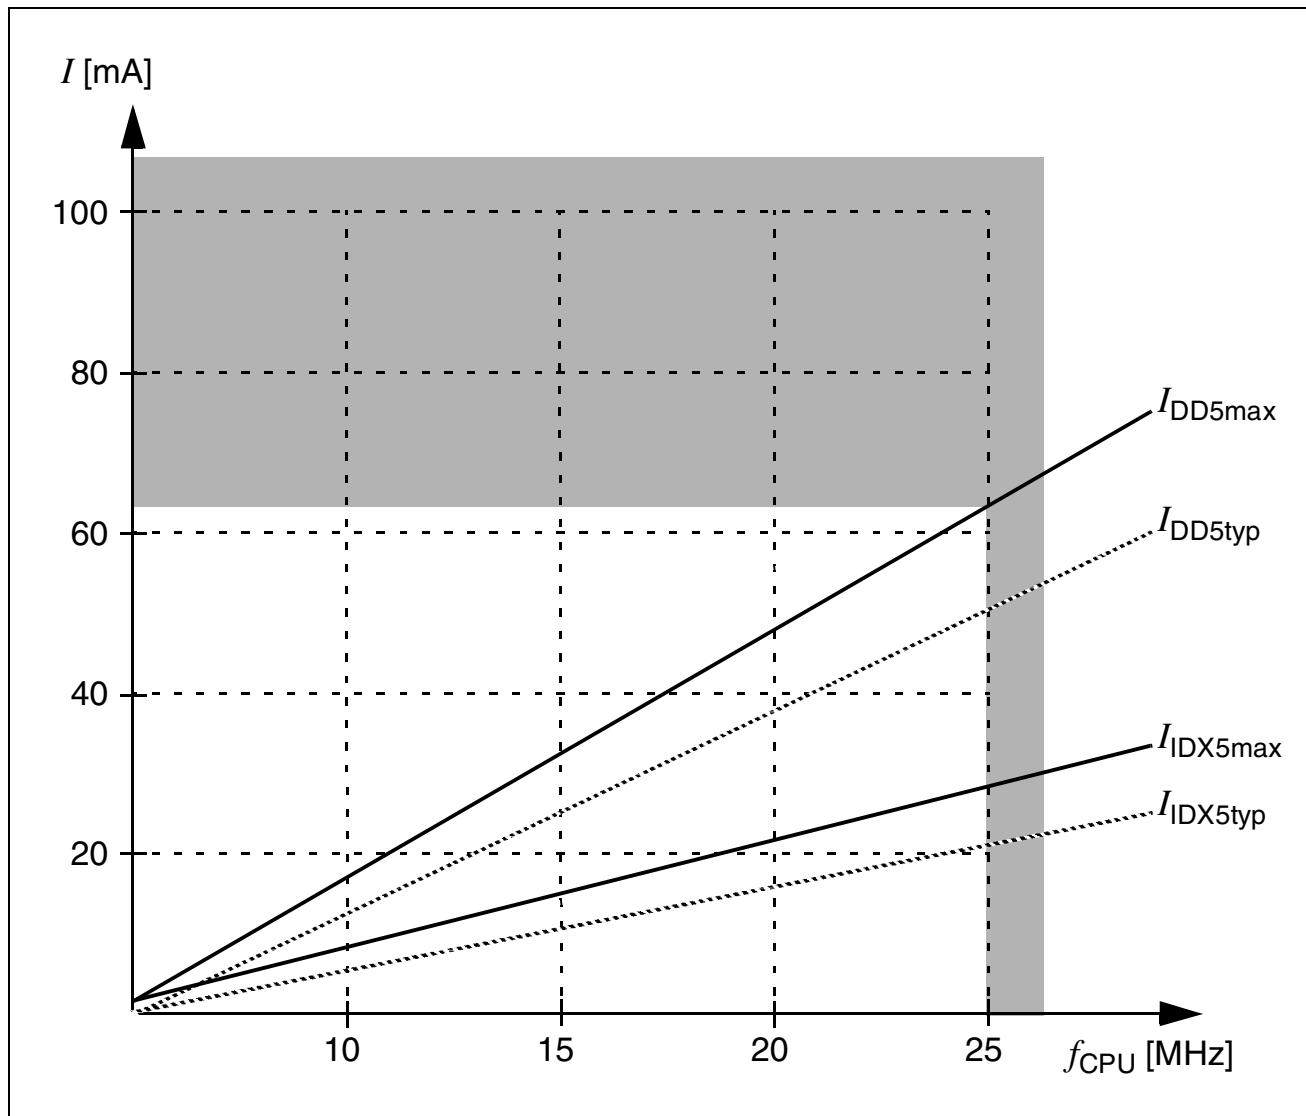

Figure 9 Supply/Idle Current as a Function of Operating Frequency for ROM Derivatives
- ¹⁾ The supply current is a function of the operating frequency. This dependency is illustrated in Figure 9.